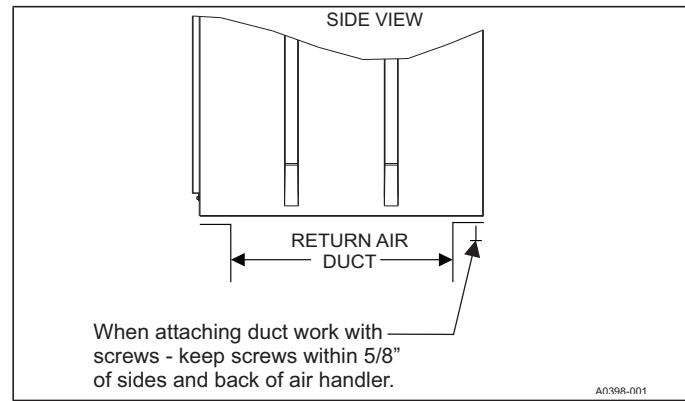

FIGURE 1: Return Air Duct Attachment
- The unit rating plate displays the air handler model number. The unit dimensions for the supply air plenum are provided in Figure 5 and Table 1 of this manual. The plenum must be installed according to the instructions. The return air duct attachment is shown in Figure 1.